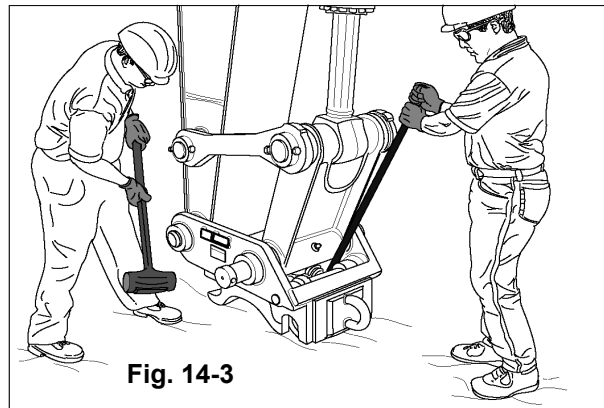

Fig. 14-3
5. Slowly operate the bucket cylinder on the excavator to align the excavator's pivot link hole with the link-side of the coupler. Insert the link machine pin. **USE THE ORIGINAL LINK MACHINE PIN THAT CAME WITH THE MACHINE TO CONNECT THE COUPLER TO THE PIVOT LINK.** Use a rubber mallet to drive the pin into place. A pry bar may be necessary to help adjust the pivot link in order to ease installation (see Fig. 14-3).